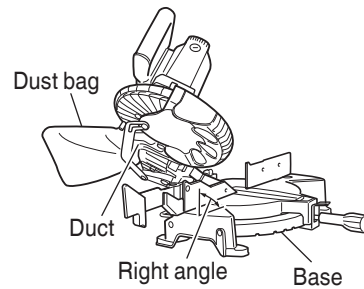

Fig. 33
- (1) When the dust bag has become full of sawdust, dust will be blown out of the dust bag when the saw blade rotates. Check the dust bag periodically and empty it before it becomes full.
- (2) During bevel and compound cutting, attach the dust bag at a right angle to the base surface as shown in Fig. 33.